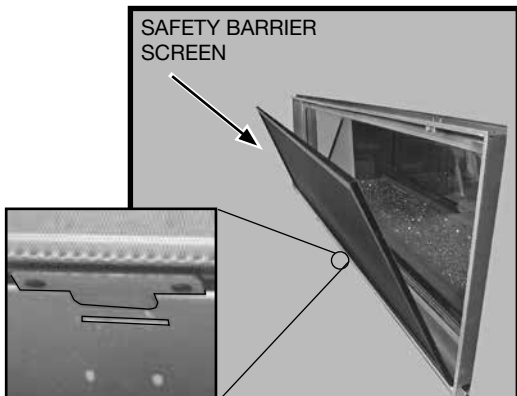

Figure 4: Safety barrier screen.
1. Remove safety barrier screen (Figure 4) by prying the top portion of the screen toward you, then lift the screen from its tabs (inset) located at the base of the door frame.